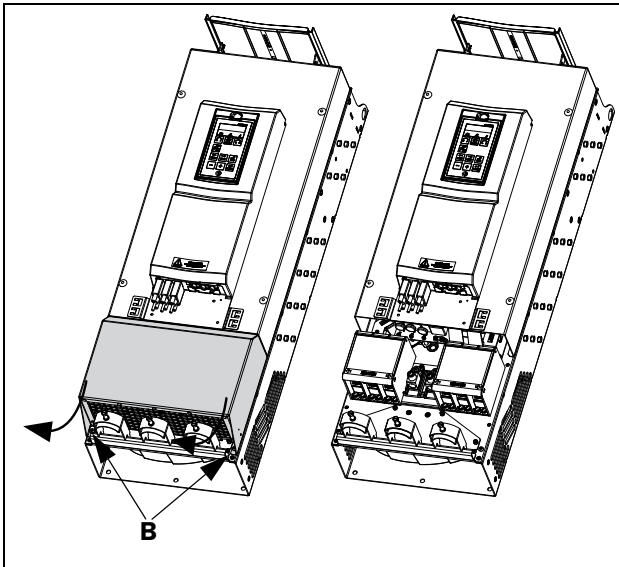

Fig. 25 Loosen the two screws and remove the lower cover (principle drawing)
- Loosen the two screws B (see Fig. 25).